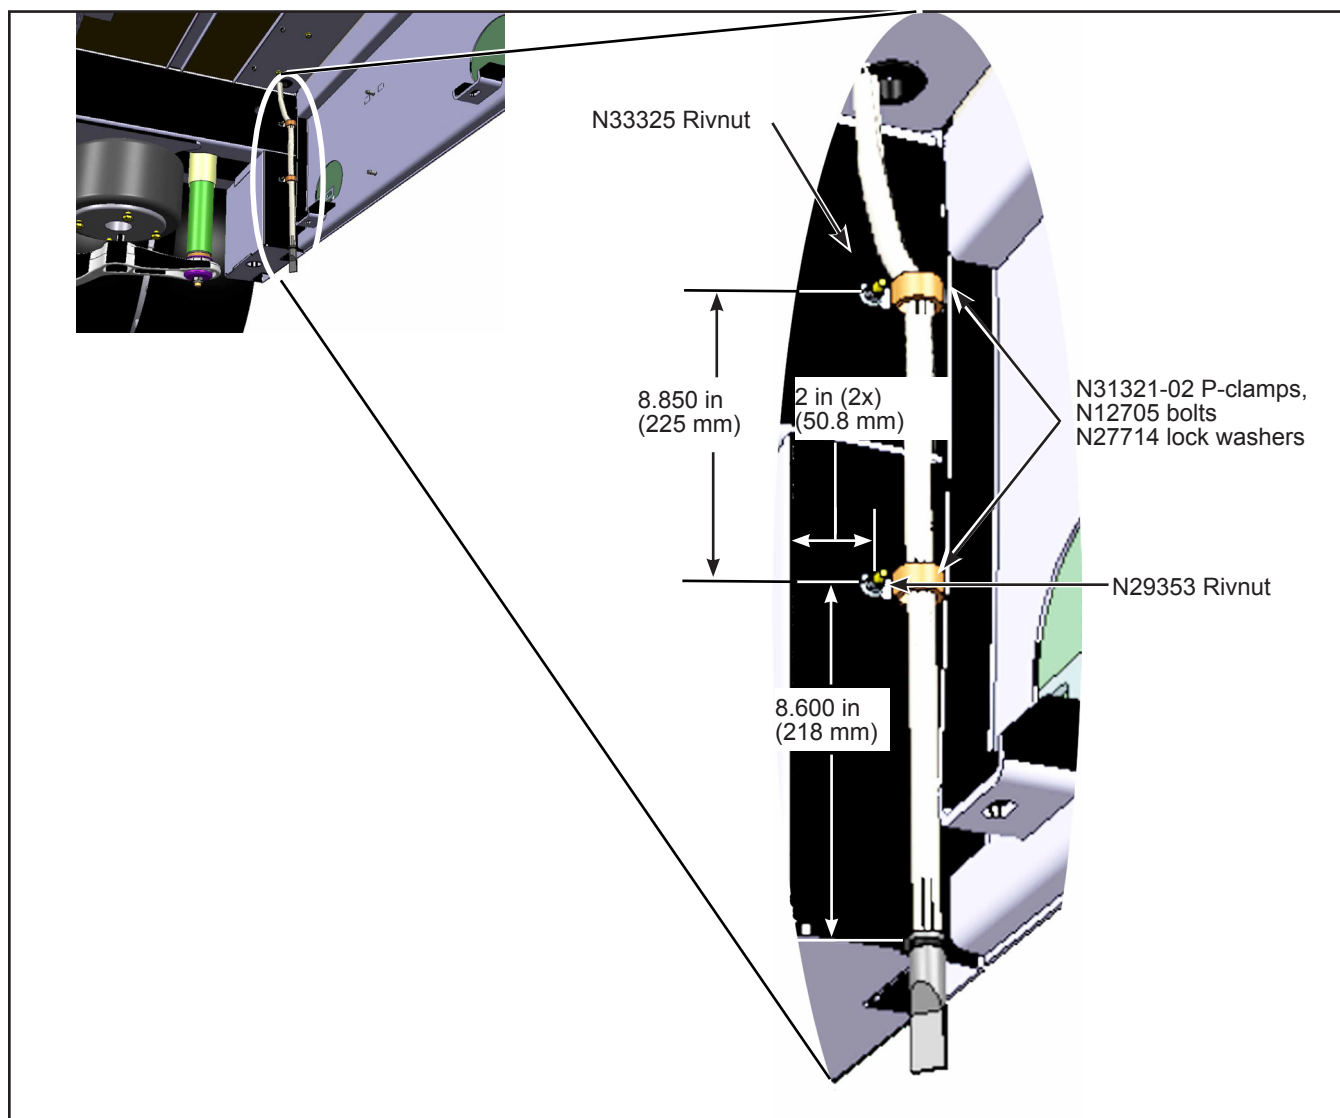

Figure 16 - New Floor Convector Drain Hose Routing
1.28.1. Drill two 0.350 in. (9 mm) diameter holes at the position indicated in Figure 16.
1.28.2. Install the N33325 and N29353 rivnuts. See Figure 16.
1.28.3. Affix the drain hose with N31321-02 P-clamps, N12705 bolts and N27714 lock washers. See Figure 16.